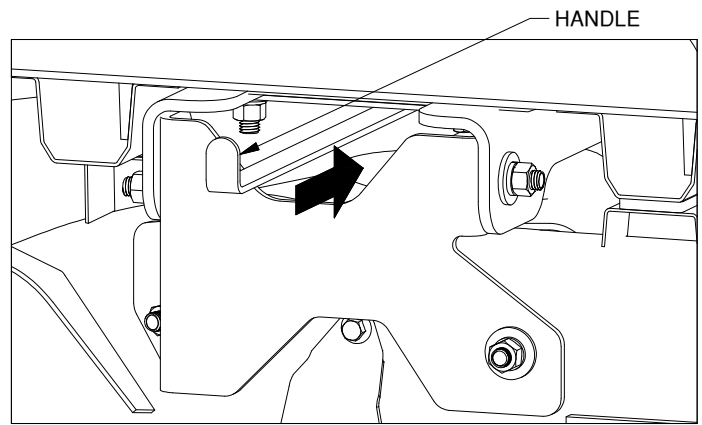
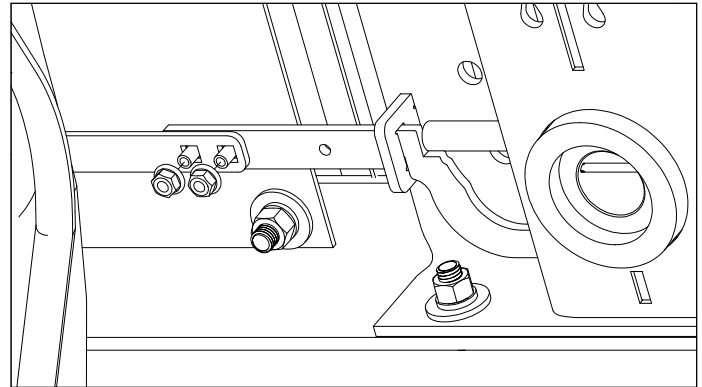

Figure E1: View looking into driver side wheel well.
Figure E2: View looking up under bed.
1. **Install handle.** Pass the handle under the bed between the cross members on the driver side wheel well so the bend in the handle is facing up, as shown in Figure E1. From the top down, insert a 5/16" carriage bolt in each of the square holes in the latching mechanism. Attach the handle to the latching mechanism over the 5/16" carriage bolts with two 5/16" locking flange nuts, see Figure E2. The handle must not interfere with any other components of the vehicle. It may be necessary to adjust the handle position by loosening the 5/16" nuts and re-positioning the handle.